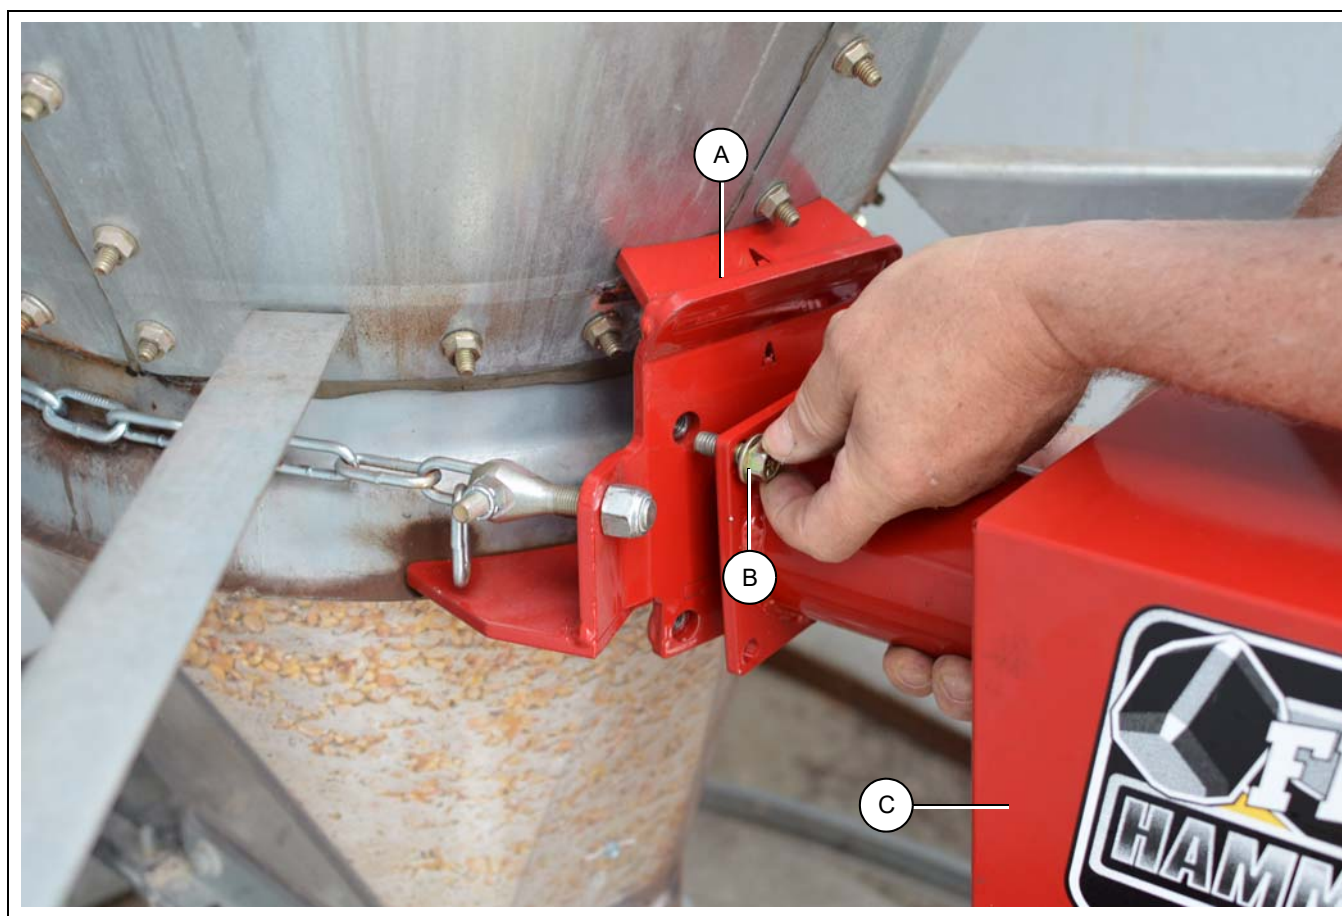

Figure 3C
1. Align the holes on power unit (C) with the holes in the mounting plate.
2. Fasten them together with bolts (B). (See Figure 3C.)